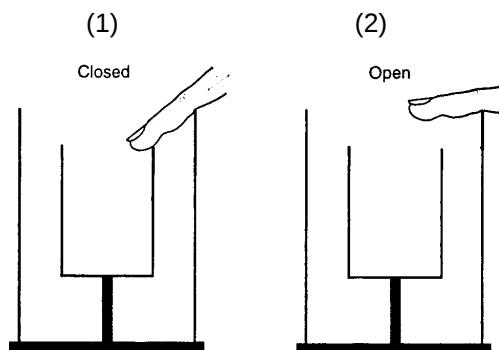

Figure 9-8. One of two methods to ground the Faraday ice pail:
1. Touch your finger to both the inner and outer cylinders. Be sure that when removing your finger, you remove it from the inner cylinder first and the outer cylinder second, as shown in Figure 9-8.